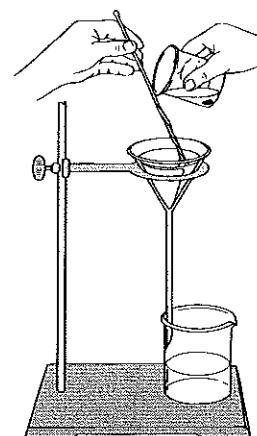

Figure 5.
18. Using a stirring rod, decant the liquid from the 400-mL beaker into the funnel. Be sure to keep the liquid level below the top of the filter paper cone (Figure 5).